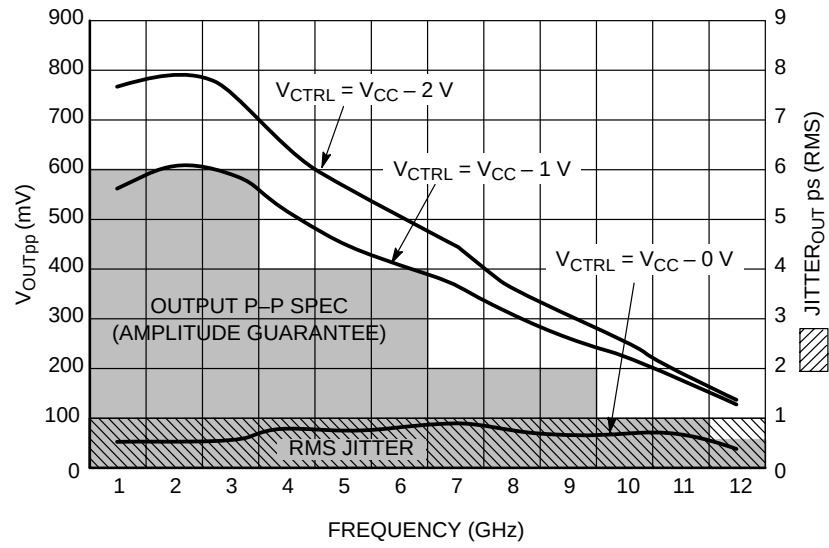

Figure 7. V_{OUT} /Jitter vs. Frequency
21. Conditions include input amplitude of 500 mV and $V_{CTRL} = V_{CC} - 2\text{ V}$. Minimum output amplitude guarantee of 100 mV (see Output P–P Spec in Figure 7).